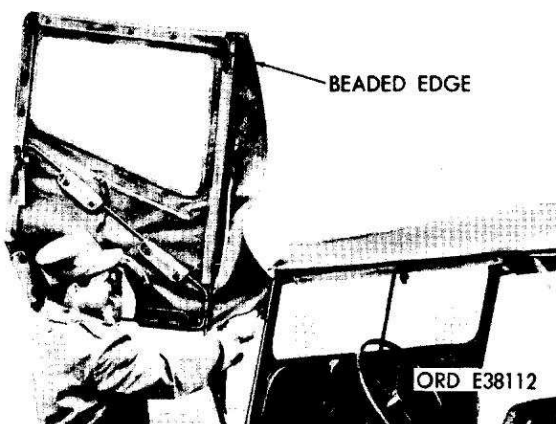

Figure 4-10. Assembling the door to the body.
e. Holding the left door above the vehicle as illustrated by figure 4-10, start the beaded edge of door canvas into the slot on top of the windshield post and slide it the full length of the slot.